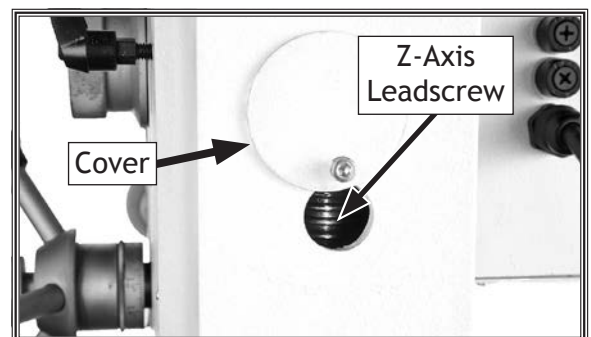

Figure 38. Z-axis leadscrew cover and lubrication point.
3. Rotate cover to expose Z-axis leadscrew as shown in Figure 38. Use mineral spirits and a brush to clean as much existing grease and debris off of Z-axis leadscrew as possible. Allow leadscrew to dry.